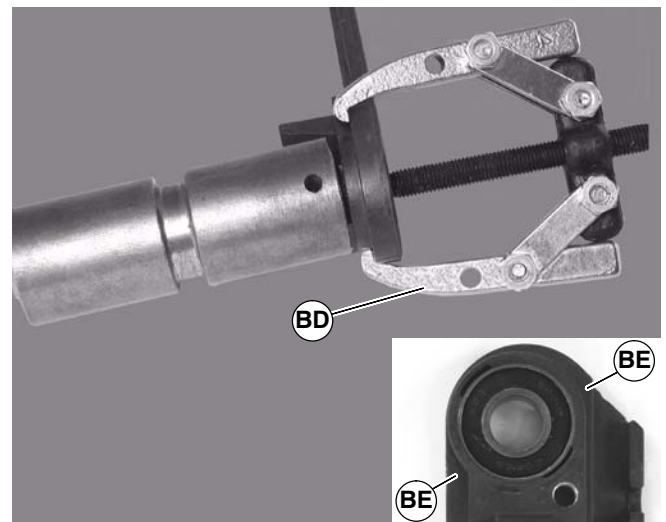

Figure 33
4. With bearing removal tool, (BD of Figure 33), part number 807-1078, remove head plate from idler shaft. Connect tool jaws at indicated points (BE).